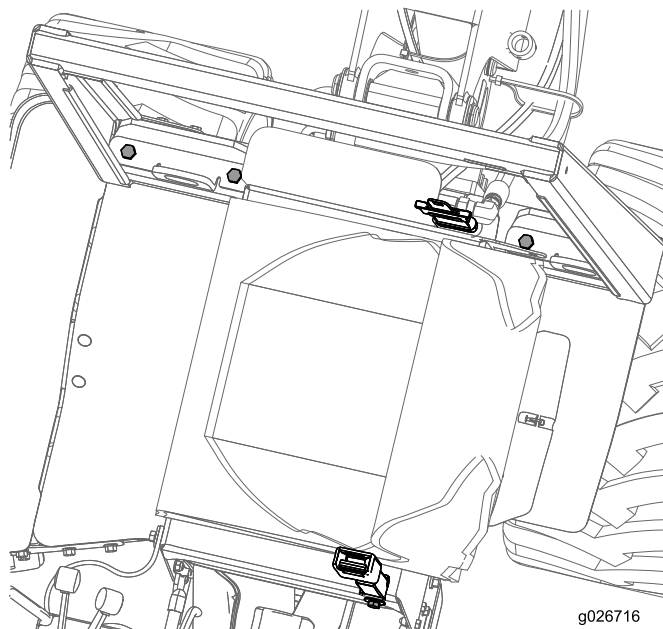

Figure 45
1. Check that the 4 bolts that secure the ROPS bar to the chassis of the machine are torqued to 162 to 176 N-m (120 to 130 ft-lb); refer to Figure 45.
2. Check that the bolts and nuts that attach the seat-belt retractor and buckle to the seat are torqued to 104 to 115 N-m (77 to 85 ft-lb); refer to Figure 45.